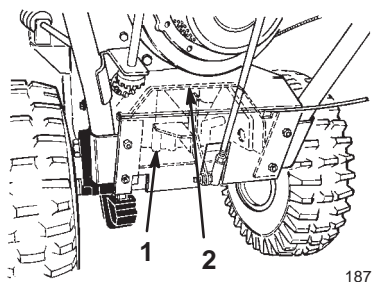

Figure 35
9. Loosen the 4 flange-head bolts (2 on each side) that secure the transmission frame to the engine frame (Figs. 35 and 36).